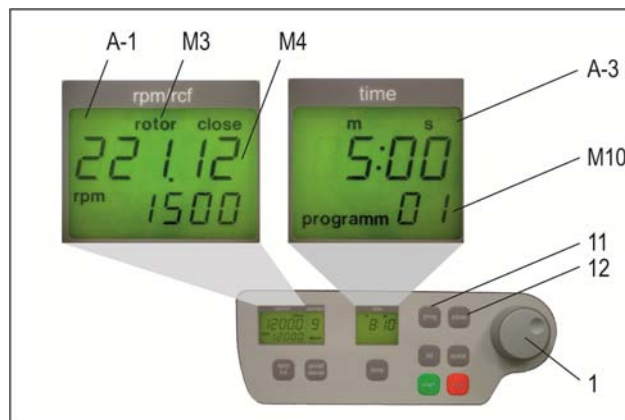

Figure 22
Put the needed rotor into the centrifuge. By pressing the key „prog“ (11) in the display „time“ (A-3) appears the word „program“ (see figure 22). With the adjusting knob (1) you can chose the desired program number.
If a program number is already occupied in the display „rpm/rcf“ (A-1) will appear the words „rotor“ (M3) and „22x.xx“ (M4) (see figure 22). In case of free program numbers it appears 0.